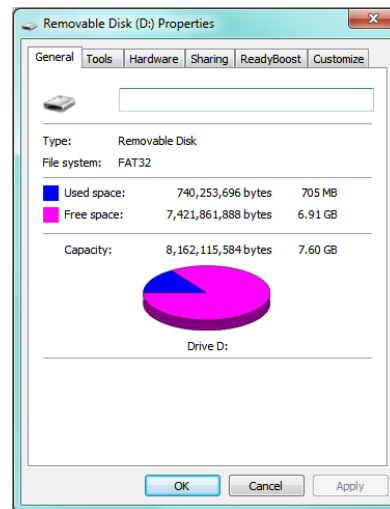

Figure 2 Properties of the USB Drive
4. When 'Properties' has been selected the window will be opened as shown in *Figure 2*.